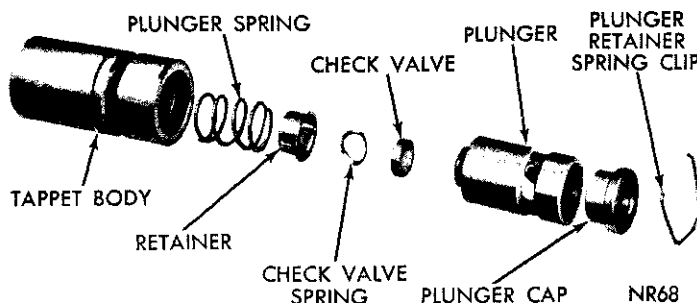

Fig. 19—Hydraulic Tappet Assembly (Disassembled View)
Disassembly (Fig. 19)
- (1) Clean all tappet parts in a solvent that will remove all varnish and carbon.
- (2) Replace tappets that are unfit for further service with new assemblies.
- (3) If plunger shows signs of scoring or wear and valve is pitted, or if valve seat on end of plunger indicates any condition that would prevent valve from seating, install a new tappet assembly.
- (4) Assemble tappets (Fig. 19).